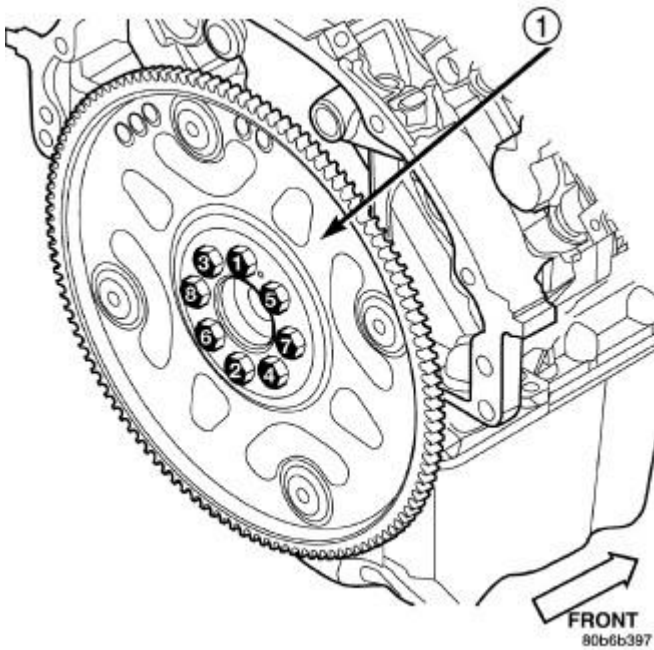

Fig. 115: Flexplate Tightening Sequence
2. Tighten the flexplate retaining bolts to 95 N.m (70 ft. lbs.) in the sequence shown in **Fig. 115** .